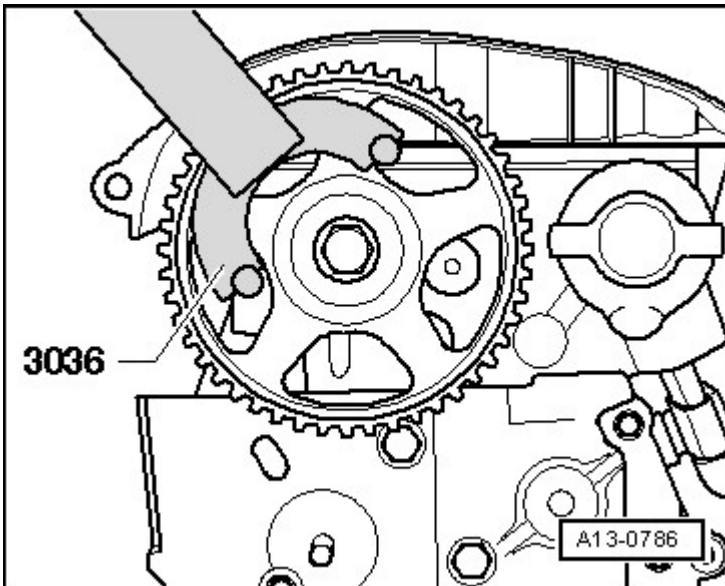

Fig. 2: Loosening Bolt For Camshaft Sprocket Using Retainer 3036
- Use retainer 3036 for loosening and tightening, refer to **Fig. 2**